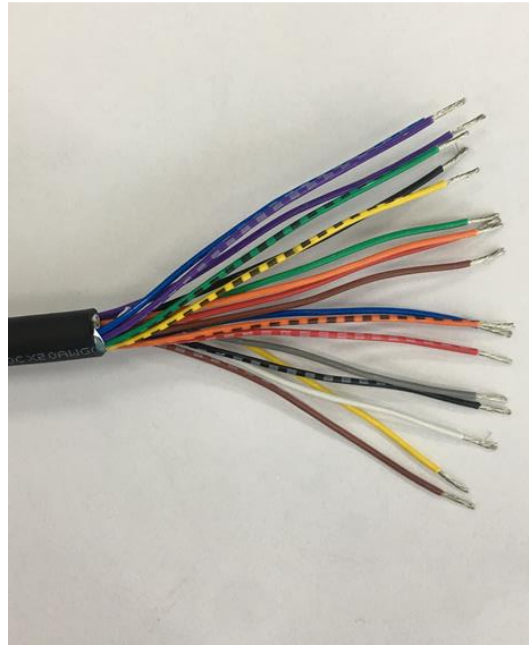

Figure 5-3: Stripped Alarm Wire
1. Strip the outer serial cable insulation back to expose the inner conductors, Figure 5-3.